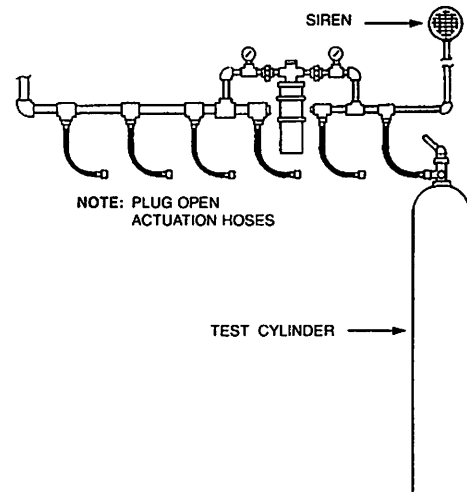

FIGURE 1
5. Disconnect the piping from the outlet of the time delay and install another pressure gauge, similar to the type specified in Step 1. See Figure 1.